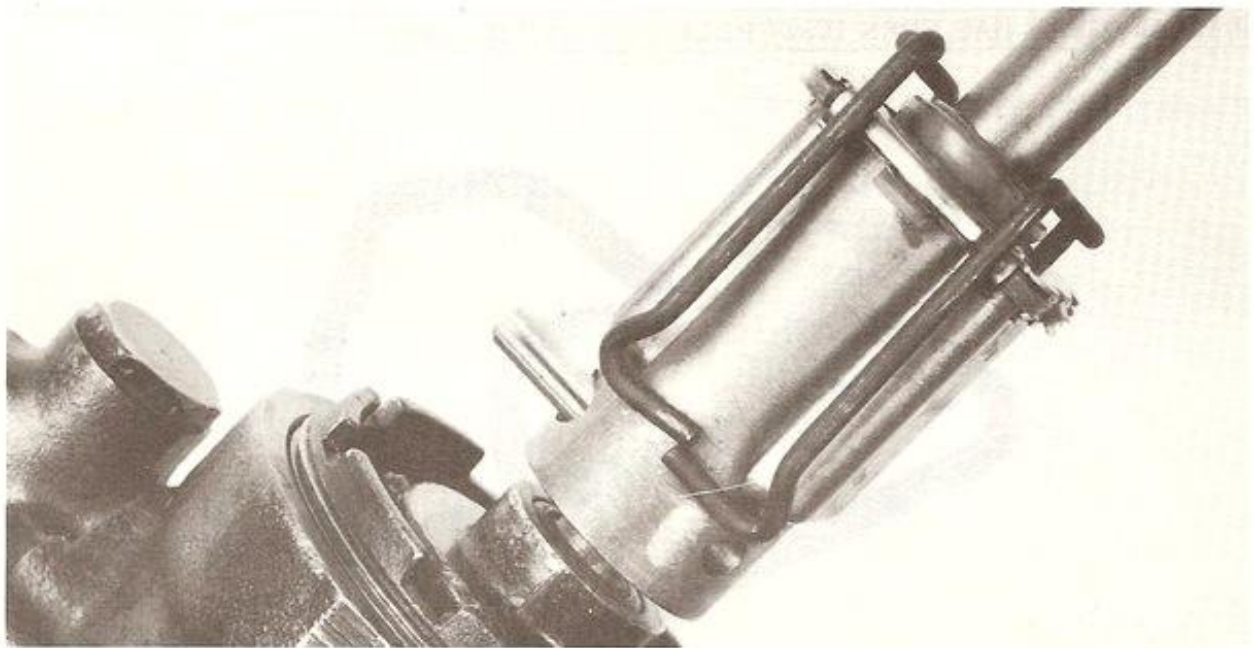

FIGURE 5. STEERING COUPLING CLAMP INSTALLATION
4. Force clamp down over cover. (Figure 5)